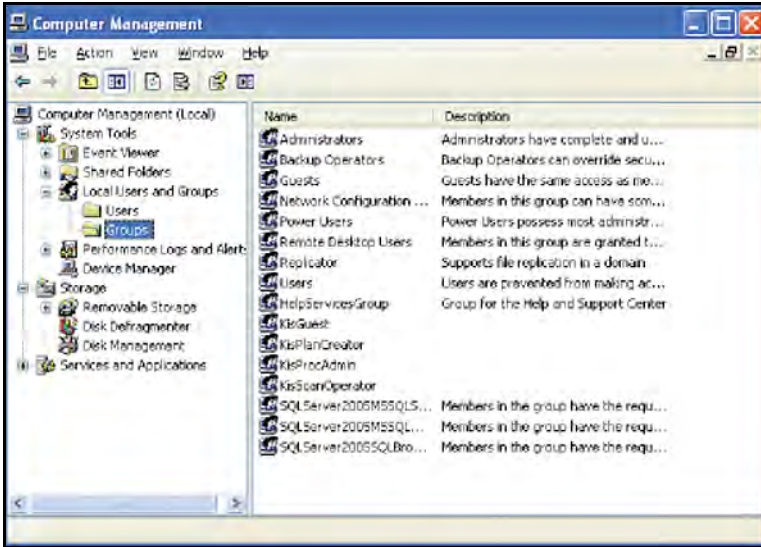

Figure 116: The Groups List
4. Then, click on the Groups folder (see *Figure 116* below).